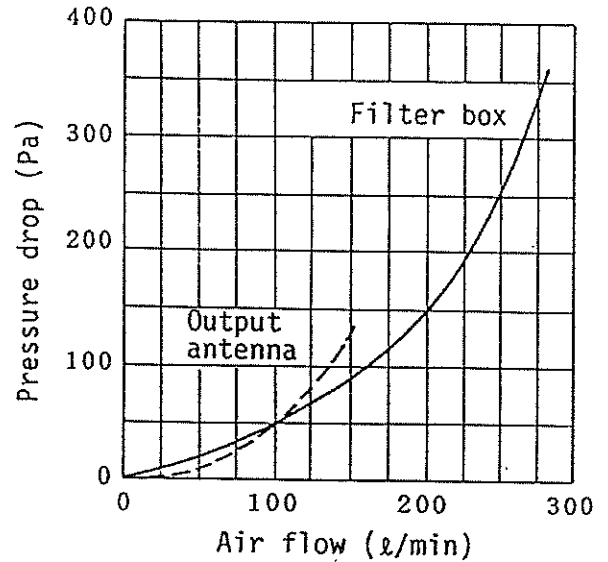

Fig. 3 Optimum filament voltage vs. average anode current
(2) All the voltage parameters are in reference to the cathode voltage.
(3) "Vn" is typical filament voltage for average anode current. (reference figure 3)
Filament voltage has to be immediately reduced after applying the anode voltage, in accordance with figure 3.
Filament voltage : In accordance with Fig. 3